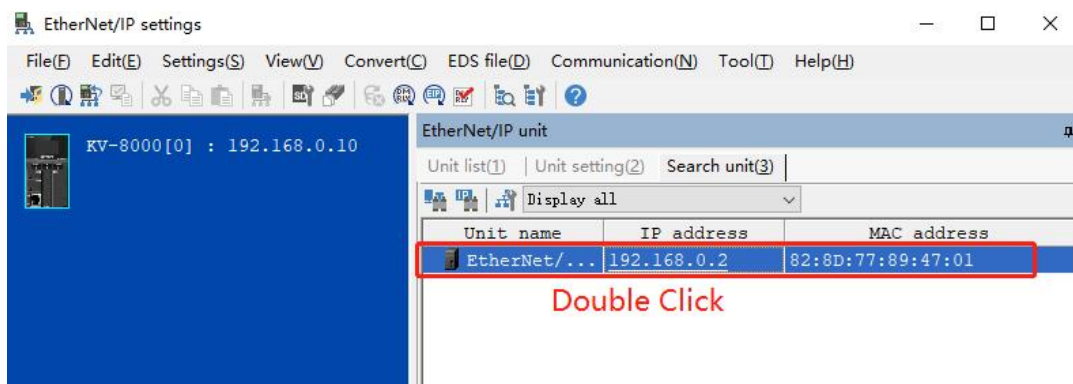
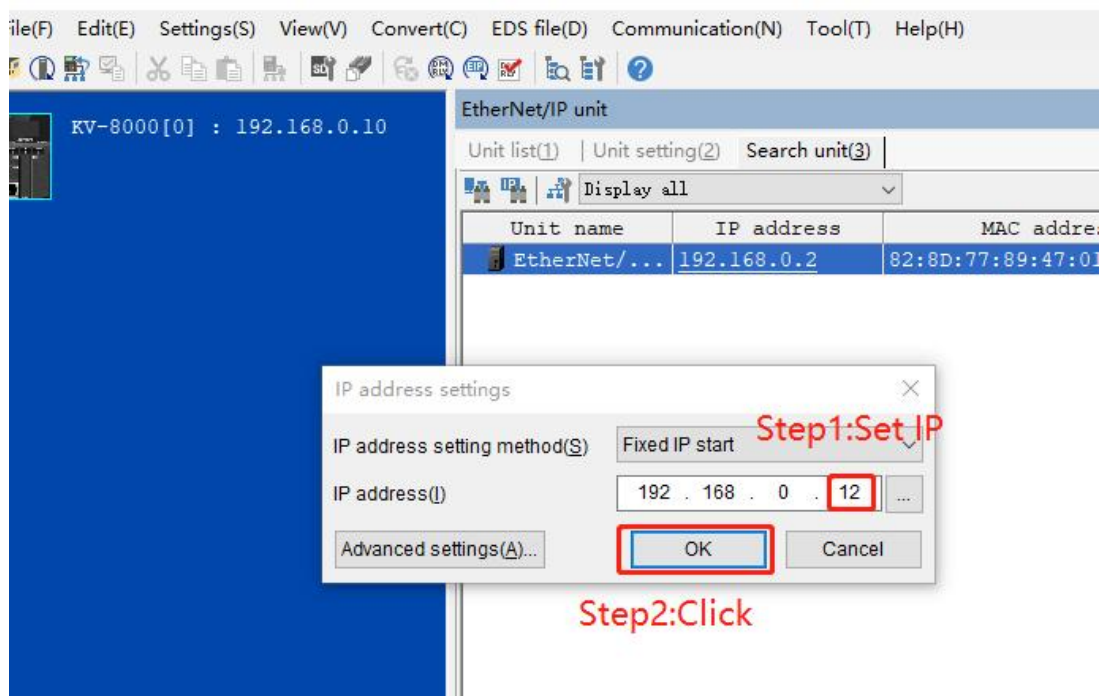

Figure 5-1-17
Figure 5-1-18
- Modify the IP address of the coupler as shown in Figure 5-1-17 to Figure 5-1-18.